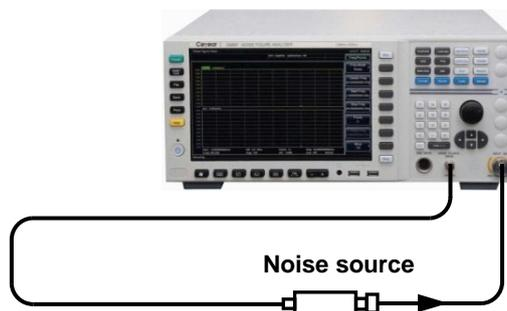

Figure 3.1 Diagram of Calibration Connection with Normal Noise Source
- Step7.** As shown in Figure 3.1, connect the noise source drive input end to the 28V noise source drive port on the noise figure analyzer panel with a BNC cable. (When a smart noise source is used, connect to the smart noise source drive port on the noise figure analyzer panel with a multi-core cable), and connect the noise source output to the input port (50Ω) of the noise figure analyzer;